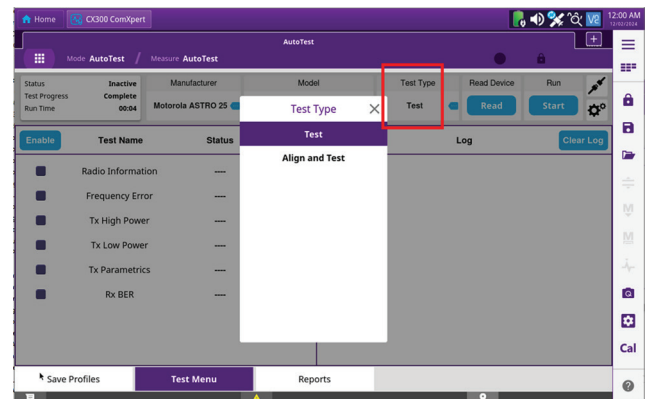

Figure 5
- Tap the **“Test Type”** and select **“Test”** or **“Align and Test”** (Fig. 5)